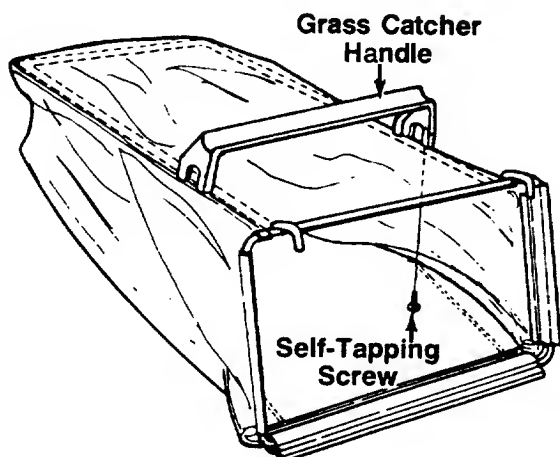

FIGURE 15.
4. Place the grass catcher handle in position on top of the grass bag and frame as shown in figure 15. Secure with four self-tapping screws.